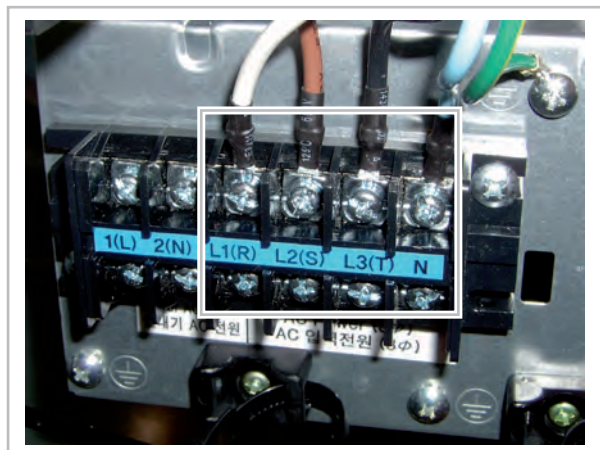

Fig. 10: Connection terminals - outdoor unit WKF/WKF-compact 180
- In the series WKF/WKF-compact 180 it must be ensured that only the terminals L1(R), L2(S), L3(T) and N are connected (see Fig. 10).